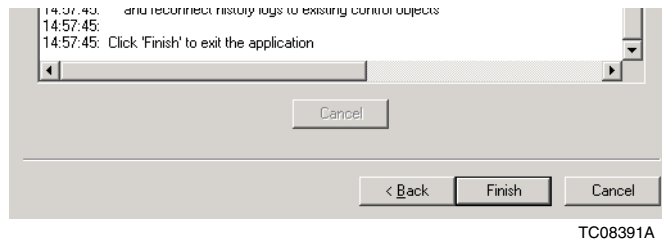

Figure 19. Execution is Complete Message
10. Click **Finish** when a message stating the execution is complete is displayed as shown in Figure 19.